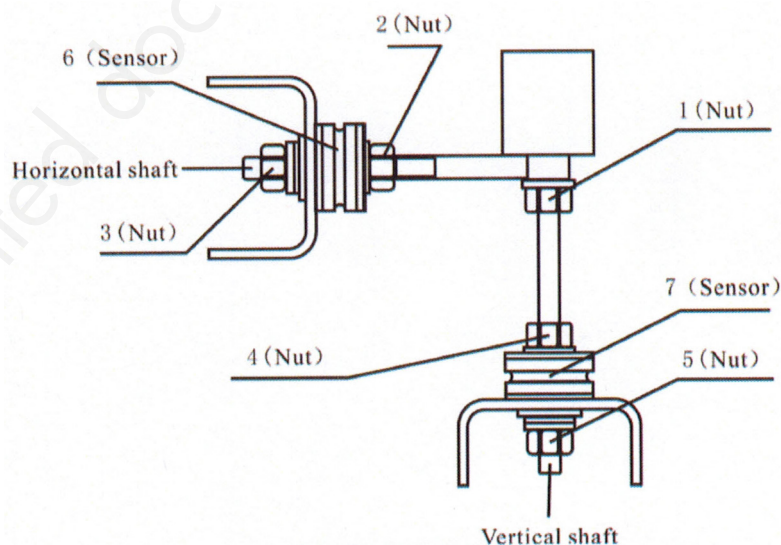

Fig. 18-1
4. Install the sensor and the nut according to the Figure 18-1. (Pay attention to the sensor's direction.)